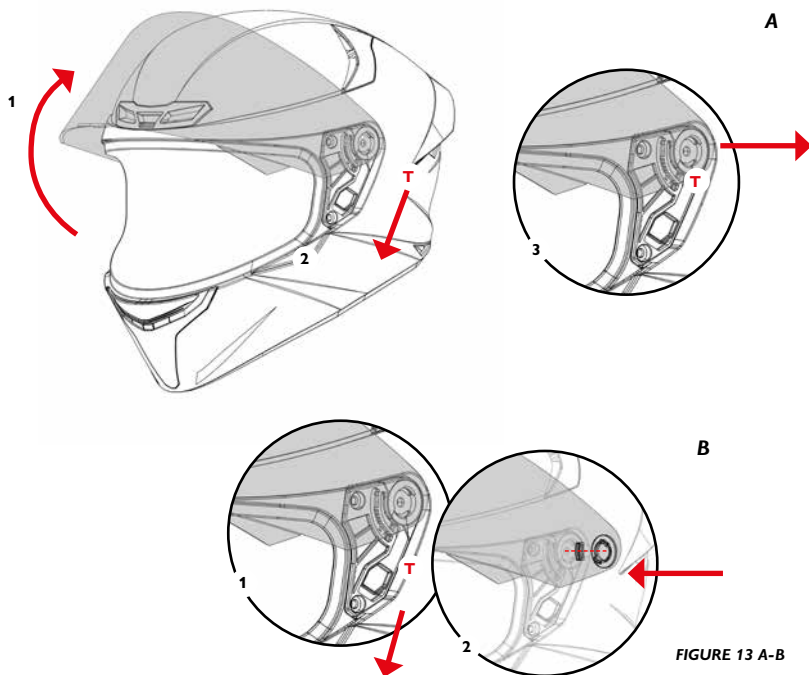

FIGURE 13 A-B
- 2) Slide the lever (T) and Keep it in tension (T)
**Assembly** — Figure 13-B